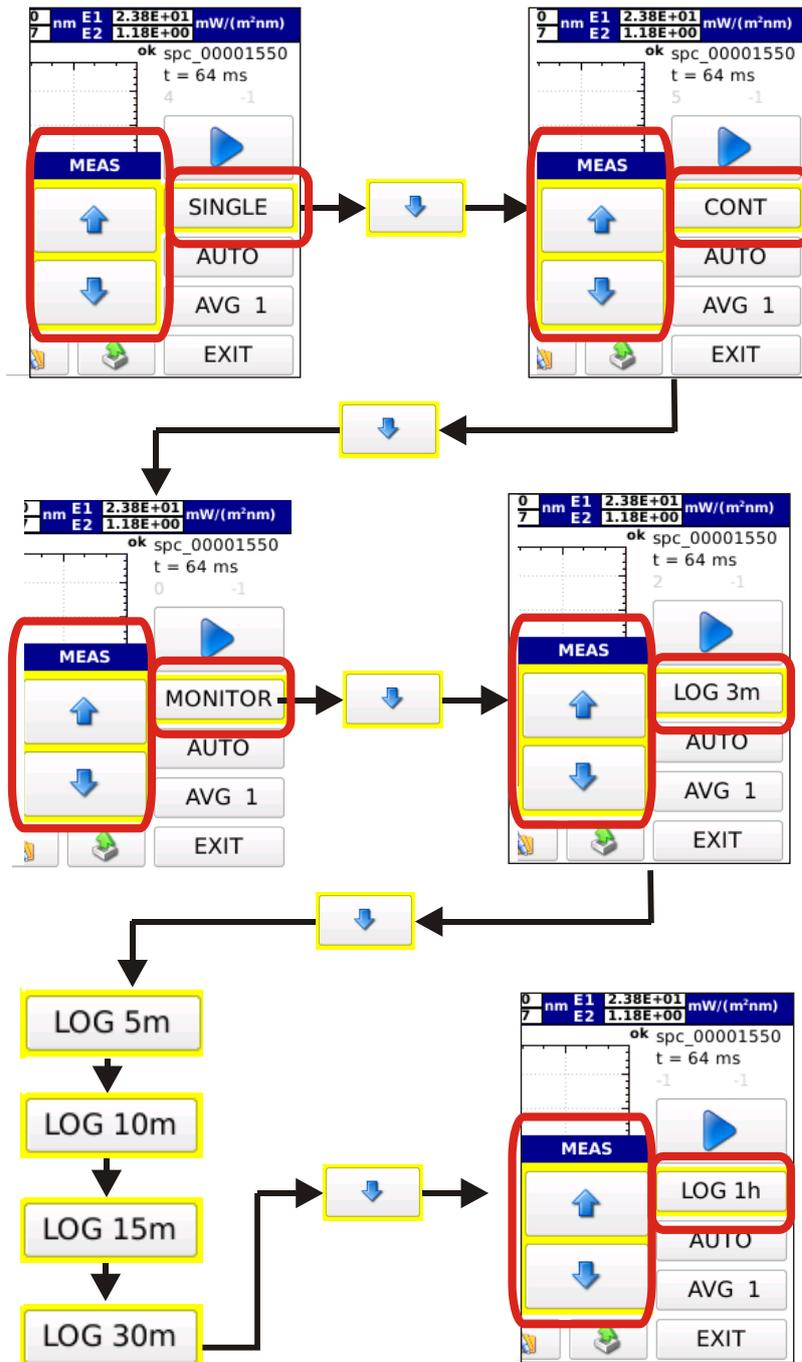

Figure 3.11: Select the operating mode using the arrow keys. Selection arrow keys disappear when pressing any other key.
3.2.1 Select the operating mode of the instrument among the four available modes (SINGLE, CONTINUE, MONITOR, LOGGING). By pressing **SINGLE** the two scroll arrow cursors are displayed, pressing **↓** makes the operating mode change as shown on figure 3.11.